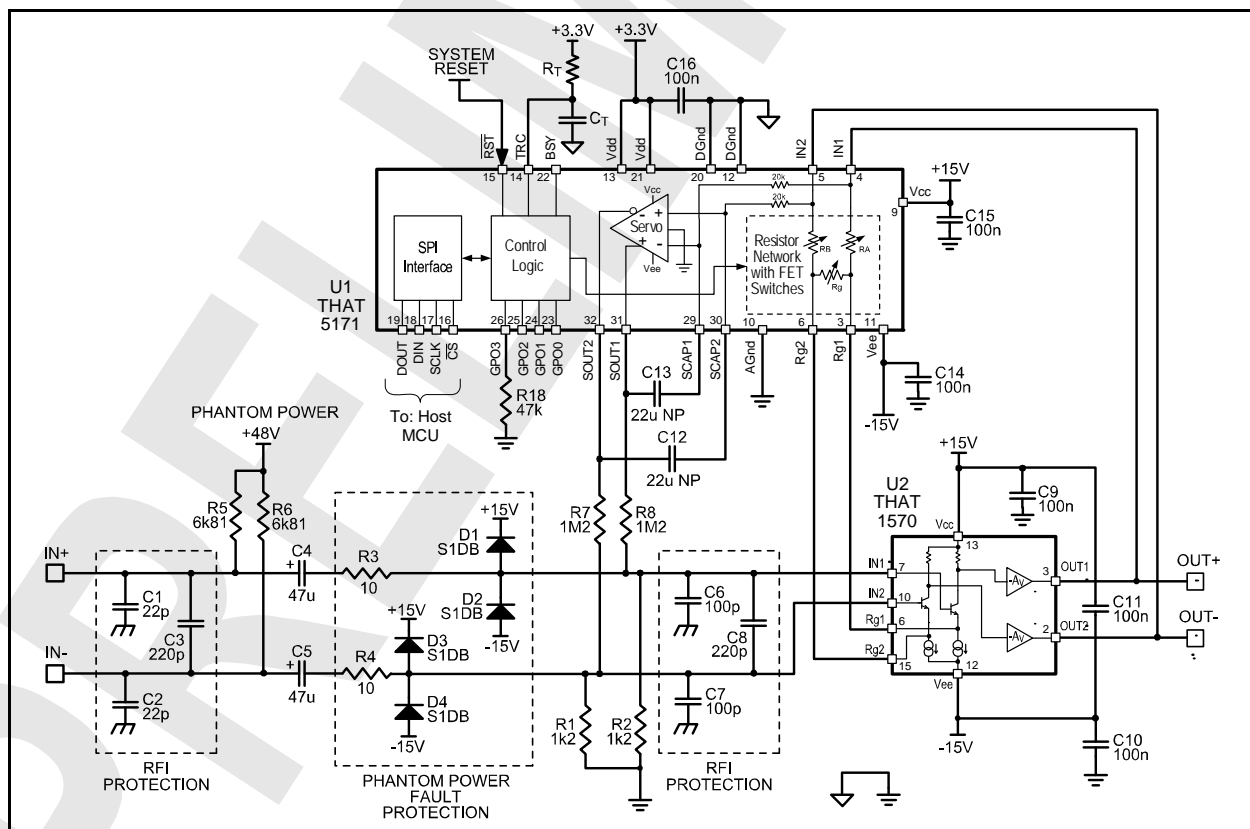
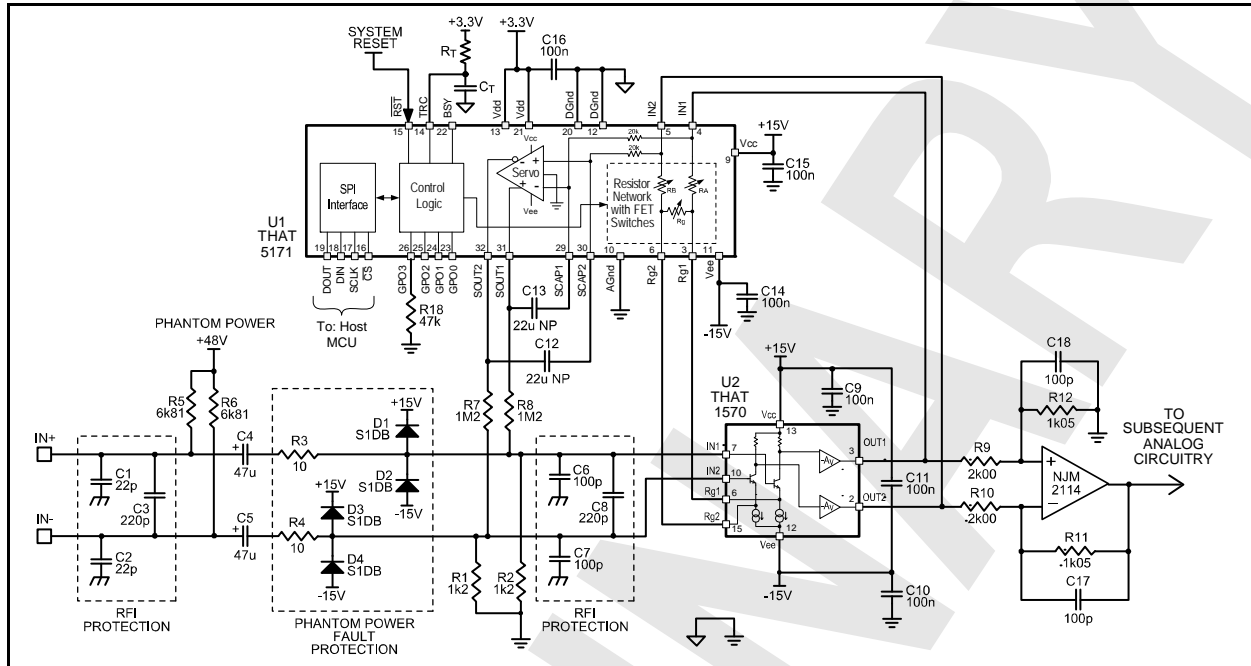

Figure 3. 5171/1570 basic application circuit.
Figure 4. 5171/1570 typical application with single-ended output.
A built-in zero-crossing detector can be used to restrict gain changes to times when the analog signal is very close to zero. The detector monitors the differential signal present between the IN1 and IN2 pins of the 5171. When enabled, it permits gain changes to take place only when the signal is within  $\pm 5mV$ . A timeout (set by external components RT and CT in figures 3~6) ensures that a gain change will always occur at the expiration of the timeout, in case the signal has not gotten within the voltage window by that time.
The combination of the input coupling capacitors (C4 and C5 in Figures 3~6), the bias resistors for the 1570 (R1 and R2 – which form a load for C4 and C5), and the servo, form a 2nd order highpass filter whose characteristics change with the gain setting. The Q of this filter is highest at the highest gain setting. (At low gains, the behavior is governed almost entirely by the input coupling network and bias resistors, since the poles split and the one related to the servo moves very low.) Assuming 1.2k $\Omega$  for R1 and R2, and 1.2M $\Omega$  for R7 and R8, we can set the highest Q to be about .63 (for approximately Butterworth response) if we choose C12 and C13 to be 1/2 the values of C4 and C5.
The circuit of Figure 3 shows the most basic application of the 5171 and 1570 to form a complete low-noise microphone preamplifier.
The circuit of Figure 3 offers differential gain that varies from 5.6 to 68.6dB. There is one large ~8dB step from 5.6dB to 13.6dB. Above 13.6dB, gain may be controlled in 1dB steps to +68.6dB. For single-ended analog outputs, the circuit of Figure 3 can be followed by a differential-to-single-ended converter, as shown in Figure 4. Here, the differential amplifier is configured for -5.6dB gain in order to minimize noise and maximize headroom at the output of the circuit. Including the 5.6dB attenuation in the differential amplifier, the system gain can be set to 0dB, or any gain from +8dB to +63dB in 1dB steps.
With the circuit of Figure 4, the maximum input signal levels remain the same, but the (now single-ended) output levels drop by 5.6dB due to the loss of the differential amplifier. When converting to single-ended signals, take care to select a low-noise opamp, and pay attention to the noise generated by the impedances. The component values shown in Figure 4 will largely preserve the dynamic range of the 1570 and 5171 combination, though they do compromise noise by 1dB at the lowest gain settings.
The circuits of Fig 3 through 6 include RFI protection in two sections. Small capacitors ( $C_1$  and  $C_2$ ) are used from the positive and negative signal inputs to chassis ground, along with a larger capacitor ( $C_3$ ) across the two inputs. These components should be located as close as possible to the input signal connector, and are intended to prevent RF from entering the chassis of the device.
- 2) **ZERO-CROSSING Mode:** Updates are made on the next output signal zero-crossing after a rising edge on the /CS pin. An RC time constant connected to the TRC pin ( $R_T/C_T$  in Figures 3~6) establishes a time-out period in case a zero-crossing does not occur within a desired time window. The zero-crossing time-out function operates as follows: